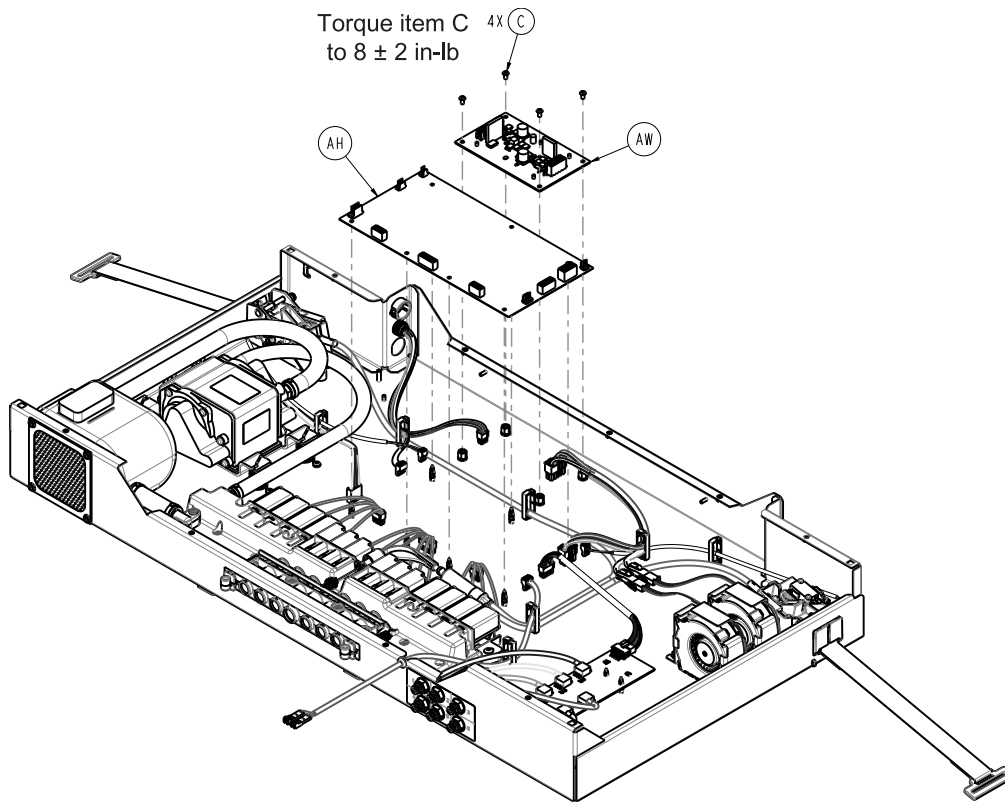

Figure 12 – Power board
3. Using a T10 Torx driver, remove the four screws (C) that secure the power board (AW) to the foot box (Figure 12). Save the screws.